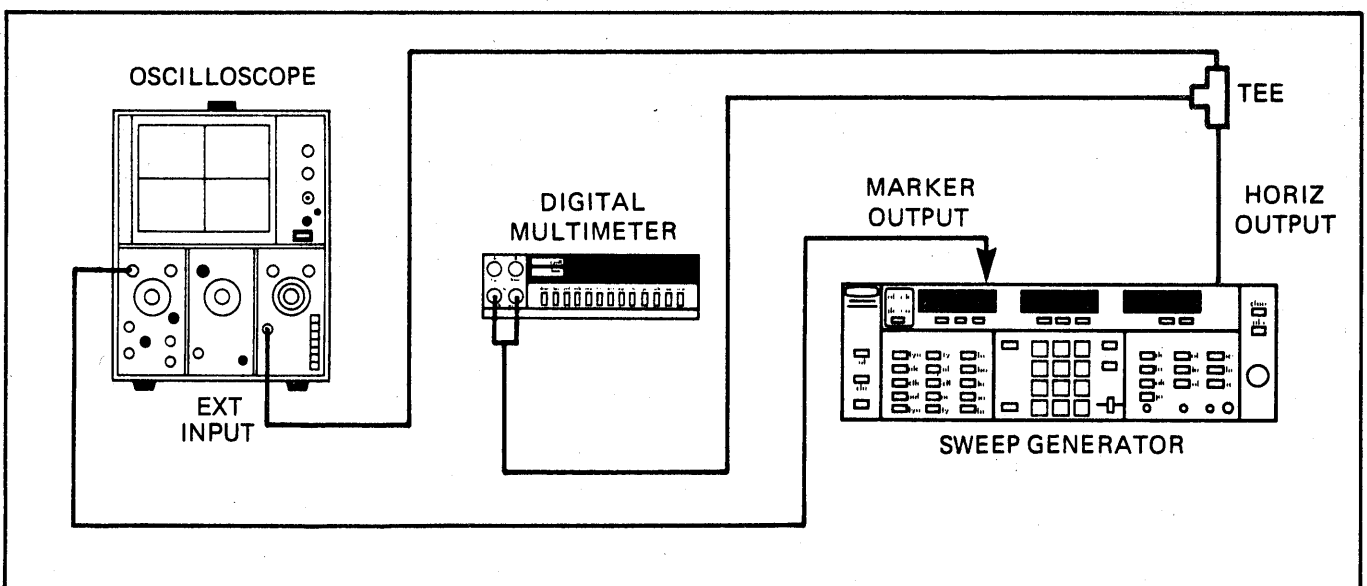

Figure 5-12. Test Equipment Setup for A3 Marker Generator Adjustments
1. Set up the test equipment as shown in Figure 5-12, and turn the equipment on.
5. Adjust A5R62 (Figure 5-12) for $0V \pm 1$ mV.